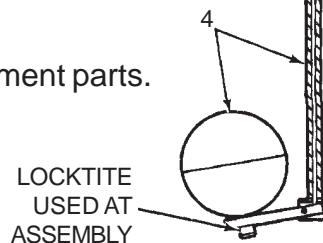

Figure 5-1. Oil Tank and Reservoir 15 Amp Low-Level Assembly
5.3.1 General. Maintenance tips, disassembly and assembly procedures for low-level options L1, L2 and L3 are discussed in Paragraphs 5.3.2, 5.3.3 and 5.3.4. A typical low-level assembly is shown in Figure 5-1 and should be referred to during this discussion.
- c. Unscrew union nut (5, Figure 5-1) from switch adapter (2).
- d. Unscrew switch adapter (2) from switch (1).
- e. Remove actuating rod, part of low-level lower assembly (4), from remaining assembly.
- f. Unscrew low-level lower assembly (4) from low-level adapter (3).
- g. Unscrew low-level adapter (3) from the reservoir cover. Remove low-level adapter (3) from union nut (5).
- b. Remove 1/4 inch pipe plug from reservoir cover. Insert low-level adapter (3, Figure 5-1) into union nut (5). Screw low-level adapter (3) into the reservoir cover and tighten securely.
c. Screw low-level lower assembly (4) into low-level adapter (3) and tighten securely.
e. Screw switch adapter (2) into switch (1) and tighten securely.
d. Insert the actuating rod, part of low-level lower assembly (4), into this assembly.
5.3.5 Oil Tank and Reservoir 15 Amp Low-Level Assemblies Parts List. Table 5-2 identifies the parts indexed in Figure 5-1.